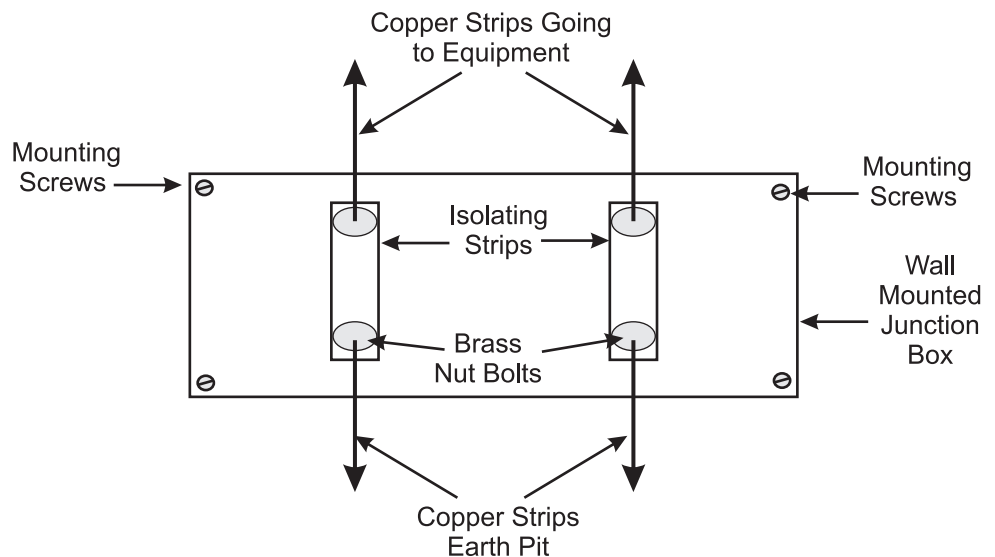

Figure 27.4: Schematic arrangement of junction box showing distribution of copper strips for earthing.
- Always use double brass nut bolts and facility to isolate the equipment during measurement of earth resistance. The arrangement is shown in Figure 27.4.
Figure 27.4 indicates that two copper strips have been brought from two separate earth pits and terminated on the wall mounted junction box. Two copper strips are taken out from this junction box through isolating plates and are connected to
Looking at Figure 27.4, you can see that RF outputs of both the transmitters are connected to the RF input ports of RF switch. Transmitter and Dummy load are connected to two RF output ports of RF switch. Note the connections of RF switch. In position '1' (A is connected to B and C is connected to D), Transmitter 1 is connected to dummy load and Transmitter 2 is connected to antenna. When RF switch is changed to position '2' (A-D, B-C), transmitter 1 gets connected to antenna and transmitter 2 to dummy load.